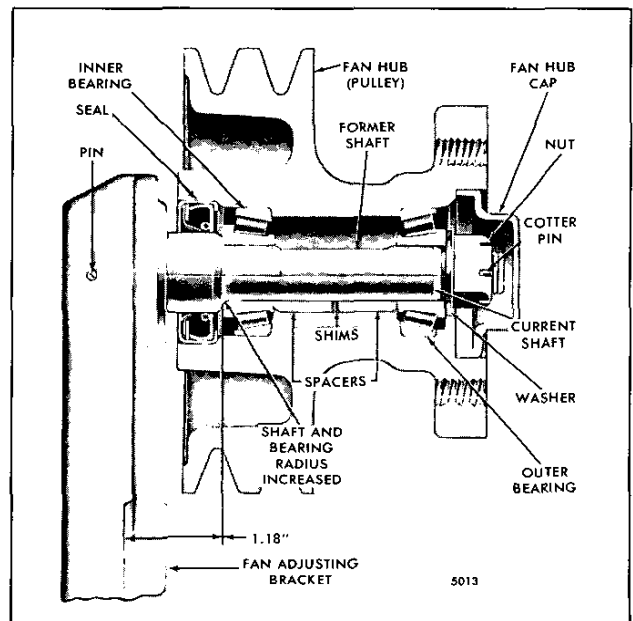
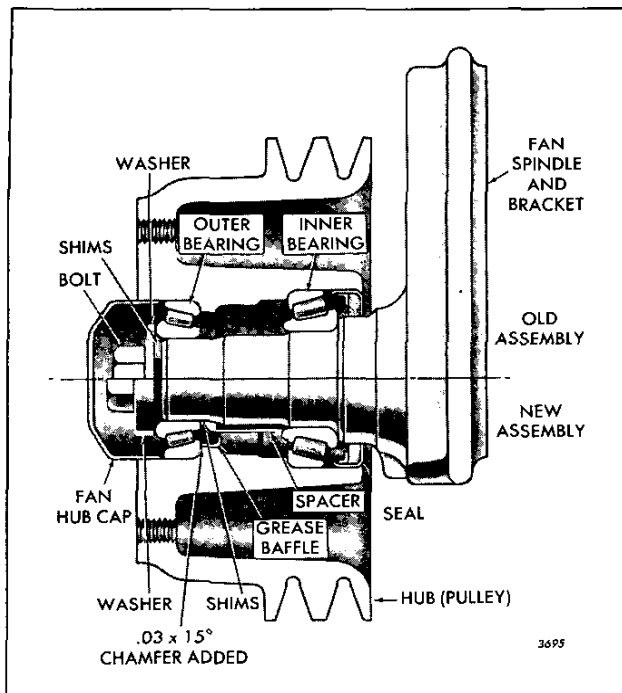

Fig. 6 - Shaft Type Fan Hub Assembly (6V Engines)
Fig. 7 - Spindle Type Fan Hub Assembly (6V and 8V Engine)
2. Remove the hub retaining cotter pin, nut and washer (Fig. 6) or the bolt and special washer (Fig. 7 and 8). Also, remove the shims if the former type fan hub assembly illustrated in Fig. 7 is used.
5. Remove the bearing spacer (Fig. 7 and 8) and shims (if the current type hub assembly is used).
The fan hub assembly illustrated in Fig. 6 has been revised. The revisions consist of an increase in the bearing inner race and shaft bearing radii, a hardened hub retaining nut and washer and the addition of spacers and shims on the shaft between the bearings. This type fan hub assembly should be rebuilt with the current parts, especially where the former undercut shaft is used. The current spacers and shims cannot be used with the former shaft.
The spindle-type fan hub assembly illustrated in Fig. 7 has also been revised. A bearing spacer has been added and a new outer bearing, which provides a closer fit on the shaft, replaces the old. A baffle has also been added to retain the grease and assure lubrication at the outer bearing. To facilitate installation of the grease baffle, a .030" by 15° chamfer has been added to the bore in the pulley.
Assemble the fan hub, shaft and adjusting bracket shown in Figs. 6 and 10 as follows:
4. Slide the spacers and shims on the shaft (Fig. 6).
Assemble the fan hub and spindle shown in Figs. 7 and 12 as follows: